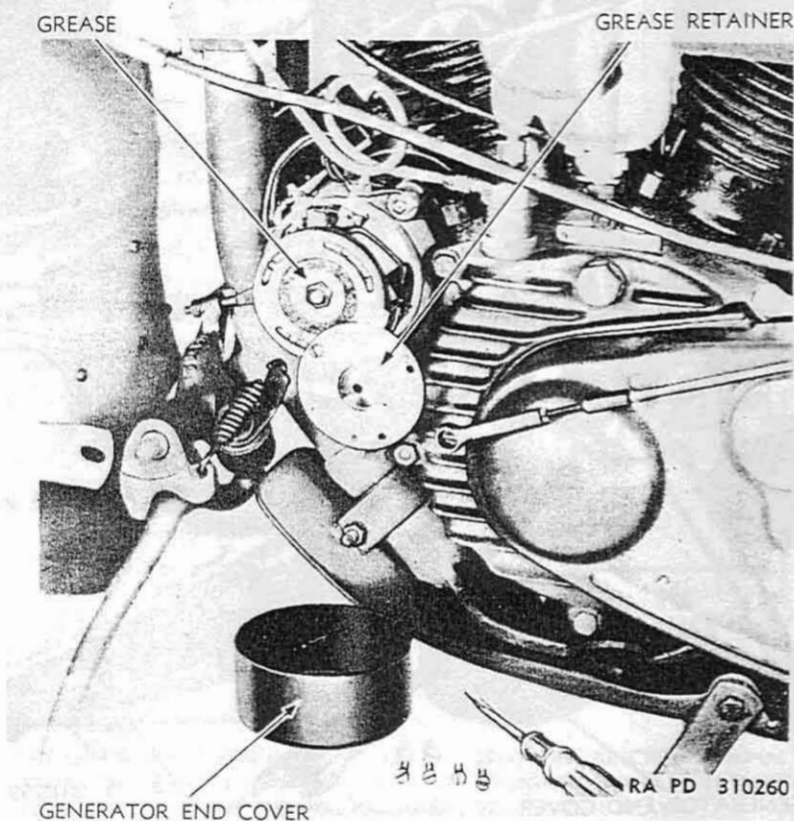
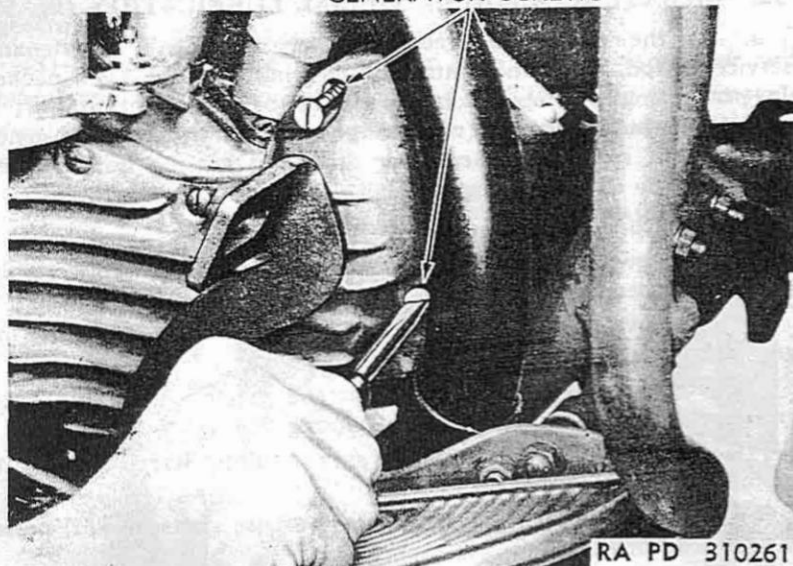

Figure 57—Generator End Cover and Grease Retainer Removed
Figure 58—Removing Generator End Mounting Screws
92. ARMATURE BEARING SPECIAL LUBRICATION (fig. 57).
(1) Remove left footboard, sidebar, and clutch pedal assembly, following procedure outlined in paragraph 102 a (1) to (6).
(2) Remove the two end cover screws and pull end cover off generator.
(3) Remove two of the three screws which secure the outer grease retainer plate to end of generator (fig. 57).
(4) Loosen the other grease retainer plate screw slightly to permit shifting plate to one side.
(5) Pack ball bearing with general purpose grease No. 2, pressing lubricant into bearing with finger.
(6) Shift the outer grease retainer plate back into position. Install the two screws removed, and securely tighten all three screws.
(7) Install generator end cover and the two retaining screws.
(8) Install left footboard, sidebar, and clutch foot pedal assembly, following procedure outlined in paragraph 102 b.
93. REMOVE GENERATOR (figs. 58 and 59).
(1) Disconnect wires from the two generator terminals marked SWITCH and RELAY.
(2) Remove the two long screws, through timing gear case cover, that secure end of generator against gear case (fig. 58).